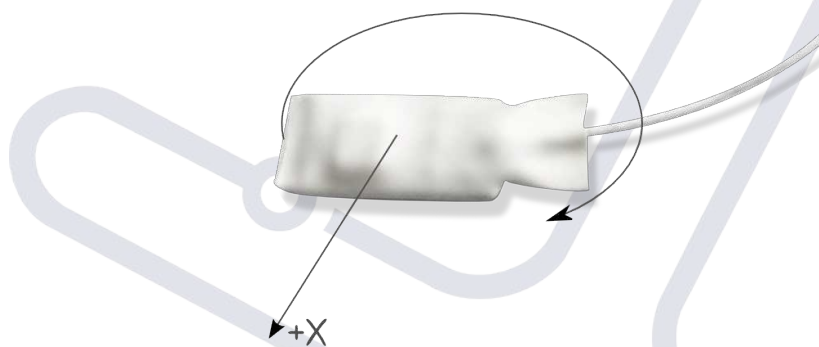

Figure 6: Pitch movement
- After the roll movement is complete and within the same acquisition session, a pitch movement must be made as shown in Figure 6. This rotation movement should at least complete 180°;